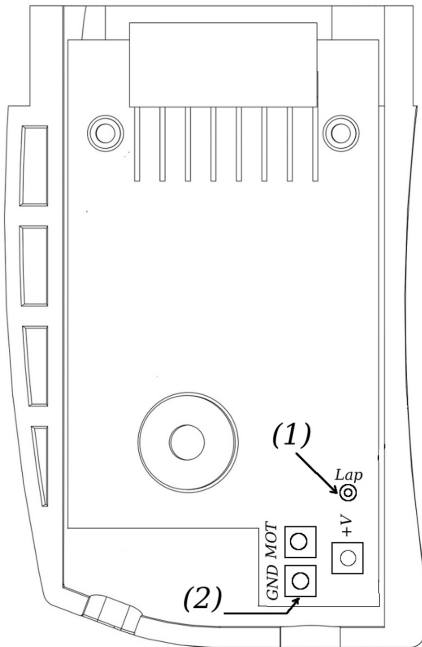
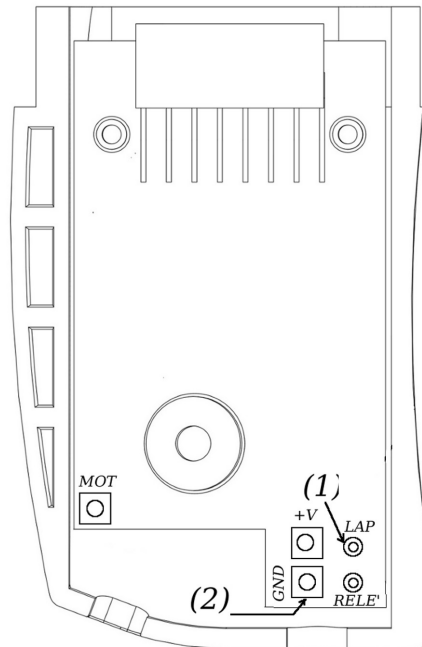

Figure 9: negative/positive analog cartridge.
Figure 10: high-current cartridge.
- insert the USB white cable's male plug of the *Telemetry Box* (10) in the USB female plug of the SCP-01 controller;
- insert the USB male plug of the “*connection cable*” (12) welded to the SCP-01 controller's cartridge (for instructions, see the following point) into the USB female plug of the “*Track to telemetry cable*” coming from the *Track Interface*. In case one wants to avoid the use of the “*connection cable*” (12) of the *Telemetry Box*, the user can follow what described in point (1);
- welding “*connection cable*” (12) to SCP-1 controller's cartridge: with reference to figure 9 and 10, the black wire must be welded in point 2, the red one in point 1. Figure 9 can be referred to in case of use of positive or negative analogue cartridge, figure 10 in case of high-current cartridge. IMPORTANT: The welding must be done keeping the cartridge not connected to the power supply; play the welding safe acting only on the indicated circuit points;